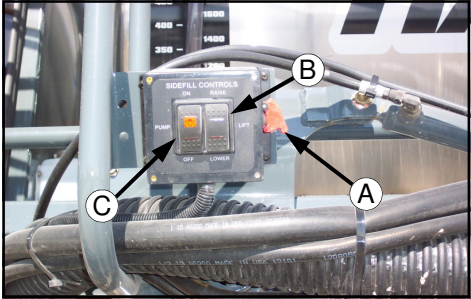

FIG 66-1
INDUCTOR OPERATION- With the engine running and the parking brake set, flip the lock switch up (fig.66-1,item A). Lower the inductor assembly with the inductor control box switch (fig. 66-1, item B). If filling with the suck-on attachment, leave the engine running. If filling with the push-on attachment, turn the engine off.
*To activate “suck-on” pump, flip the inductor control switch up (fig. 66-1, item C). This will start the pump. Flip switch down when filling is complete.